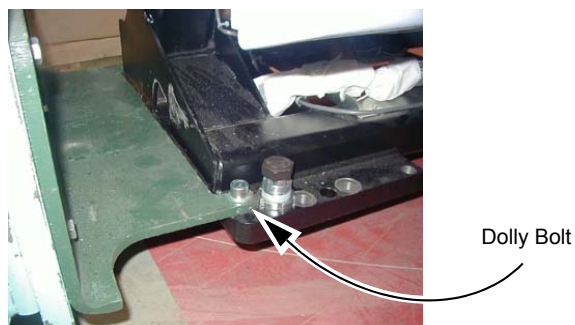

Figure 1-7 Gantry Dolly Bolts
- 6.) Using a 14 mm hex socket, remove the dollies from the gantry by removing the three dolly bolts found at both ends of the gantry (Figure 1-7).